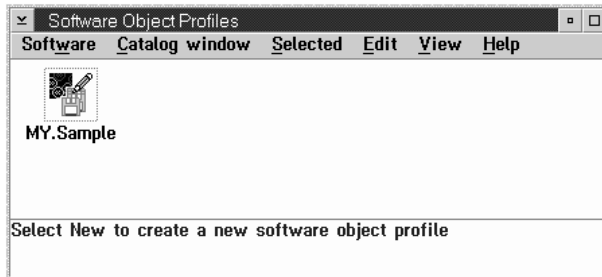

Figure 66. Software objects profile window
- 21 Click on the **OK** push button. The Software Object Profiles window is displayed. It contains the **MY.Sample** software object profile just created, as shown in Figure 66.